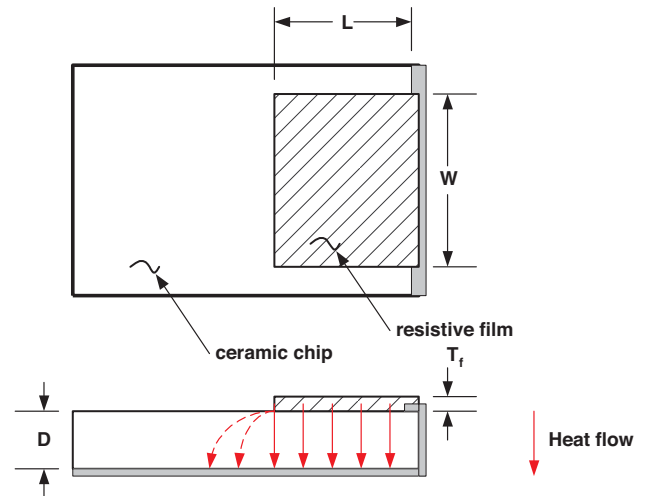

Figure 8: Chip termination showing heat flux
Assuming, from the aging tests, that the designer now knows the maximum film temperature allowable at full applied power, it must now be determined how to insure it is not exceeded – and what limitations it imposes on electrical performance. **Figure 8** shows the heat flux in a chip termination. We begin with three simplifications to establish an elementary thermal model: (1) The heat is generated uniformly everywhere in the film; (2) the heat flow is one-dimensional – no spreading – from the film to the bottom of the chip, which is assumed at ambient (thermal ground); and (3) there is no convective or radiative heat flow. Concerning (1), we know that the currents in the film tend to be edge concentrated – much more so the lower the resistivity – and so there will be more heat generated at the edges than at the center. Nevertheless, we expect the approximation to be quite good for film geometries where the length and width are substantially greater than the substrate thickness and for the range of film resistivities typically encountered in RF applications. Additionally, we are not considering tapers, wherein the width of the film and hence the power dissipated
at any cross-section may vary along its length. Concerning (2), it is understood that there is indeed thermal spreading, not only from the front face of the film – heat flow lines shown dotted in **Figure 8** – but from the lateral edges as well. Thus, the second and third assumptions are thermally conservative – there will be additional heat paths beyond those accounted for – while the first will need further investigation since edge-located hot spots could develop at RF that would not be revealed in DC tests.